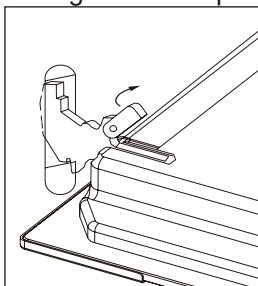

Fig.17
- Lift up and turn the small levers situated on the two hinges, grip the door on the two external sides, shut it slowly but not completely (Fig.17).